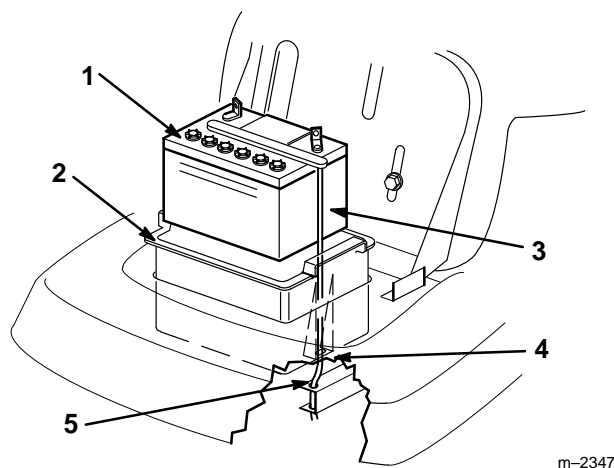

Figure 20
5. Remove the battery box, battery, and long vent tube from the chassis (Fig. 20).
1. Put the battery into the battery box and slide the vent tube into the channel and through the slot in the bottom of the box (Fig. 20).
IMPORTANT: Look down into the cut out area where the battery box fits into the chassis. Notice the hole at the end of the right frame member (Fig. 20). Always install the long battery vent tube through the hole to prevent battery acid from corroding the tractor and mower.
2. Install the battery box and battery into the chassis (Fig. 20). Make sure to slide the end of the vent tube through the hole in the frame (Fig. 20).